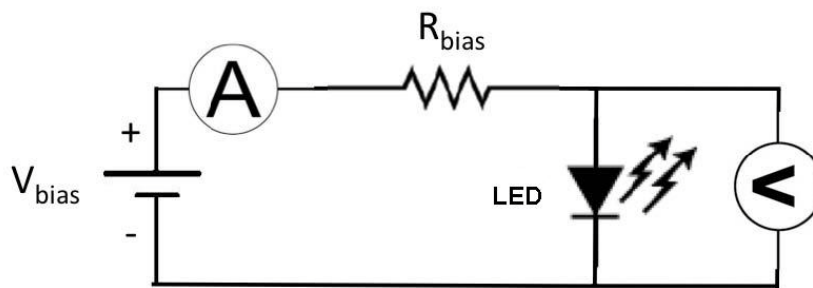

Figure 5: Circuit used to measure LED characteristics. You can use either an external ammeter and voltmeter or you can read the values from your voltage source.
Remember that in previous labs you have characterized LEDs and done the same for resistors. We will determine the LED's threshold that is the minimum power required for the LED to "turn on". The schematic that can be used to perform this measurement is shown in Figure 5: A = ammeter, V = voltmeter;  $R_{bias}$  is used to limit the current through LED. Since the LEDs used in this experiment are on the order of 10mA, and bias voltages are on the order of 2-3V, we can use  $R_{bias} = 100\Omega$ . Note, remember to include these resistors in the circuit :).
3.a) Using the circuit shown in Figure 5, measure the I-V characteristics of the LED to be used in this lab. You can increase the voltage in steps of 0.3V, from 0V to 3V.